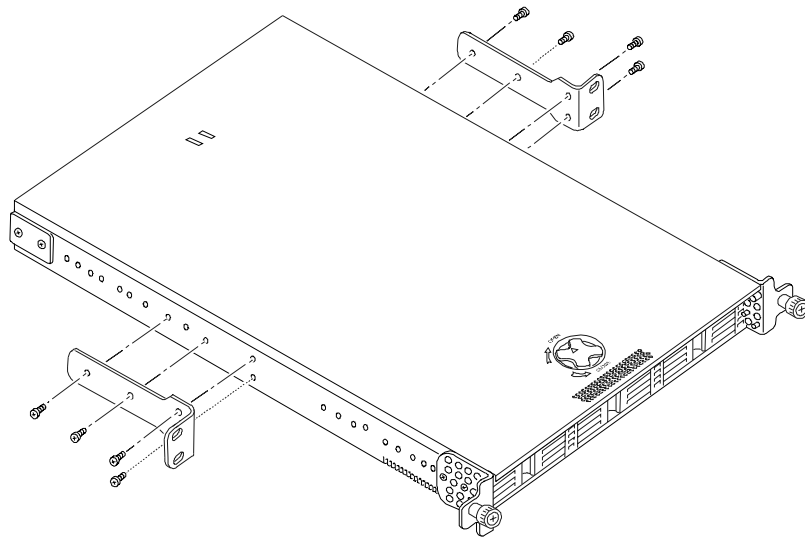

Figure 7-5. Mounting Center Mount Brackets
7. If required, mount the center mount brackets on the Netserver chassis using the four screws provided for each one. See Figure 7-5.